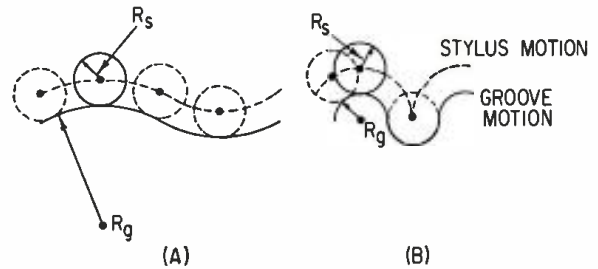

Figure 7. The effect of frequency or diameter on tracing distortion. (A) is a low frequency or outer diameter, (B) is a high frequency or inner diameter.
**Modulating frequency:** Tracing distortion is proportional to the frequency. As the frequency increases, the radius of modulation decreases and by comparison the playback tip radius appears larger—resulting in increased distortion. FIGURE 7(B) shows a modulated groove which is the same as that in FIGURE 7(A), but with a higher modulating frequency. The playback distortion from the groove in FIGURE 7(B) is greater than that from FIGURE 7(A). Tracing distortion is more severe at higher frequencies.
**Recorded diameter:** Tracing distortion increases as recorded diameter decreases. FIGURE 7(A) and 7(B) also represent two identical recorded grooves, but with FIGURE 7(A) at a larger diameter with little or no distortion, and FIGURE 7(B) at a smaller diameter with higher distortion. Tracing distortion is thus more pronounced at inner diameters.